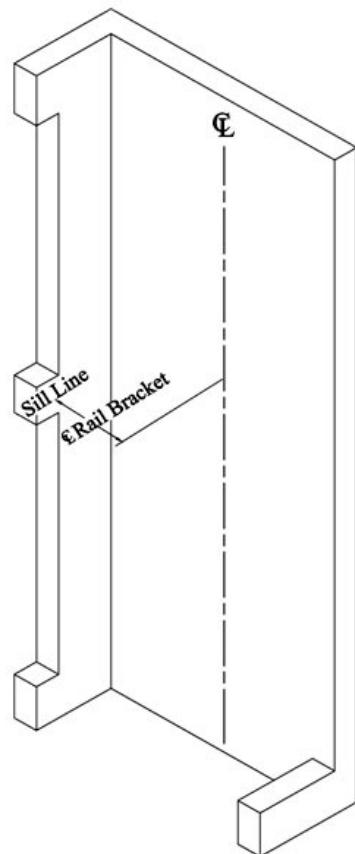

Figure 8 Rail Bracket Centerline
3) Mark the centerline location on the wall and then, drop a plumb from this point. Be as accurate as possible here and verify that your measurements are within +/- 1/32". "Snap" a chalked plumb line to mark the centerline from the top of the hoistway to the bottom, refer to Figure 8.